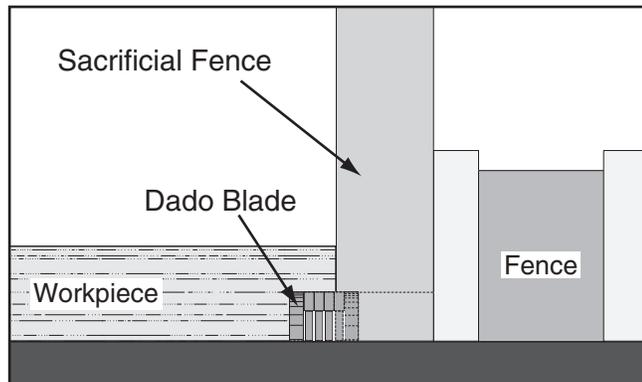

Figure 68. Rabbet cutting with a dado blade.
3. Adjust the fence and align the workpiece to perform the cutting operation as shown in **Figure 68**.